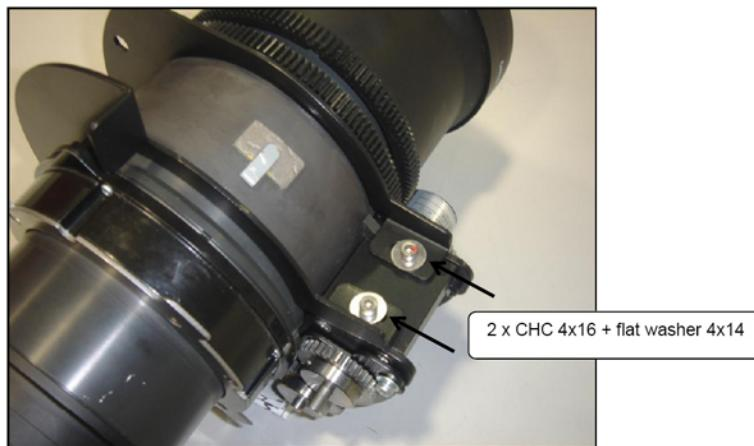

Figure 3-10 Fasten Motor Arms
7. Close the motor set arms and fasten them with the hardware shown in **Figure 3-10**.